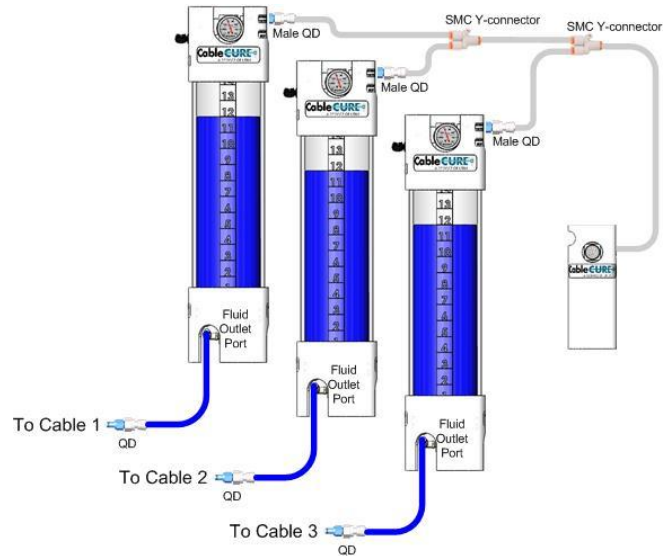

Figure 8: Configurations with multiple feed tanks.
- l. If multiple (2-3) feed tanks need to be connected to the miniature pressure regulator, use Teflon tubing and tube fittings to make the necessary connections (Figure 8).